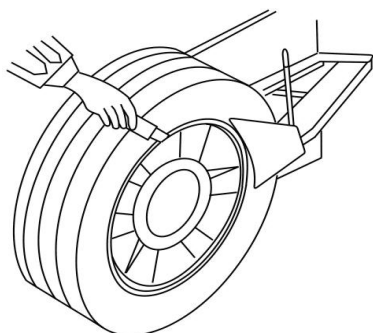

Fig.12
*Lubricate the bead with a brush with lubricant before the shoe touches the bead. Otherwise the tire bead will be worn (as fig.12)*